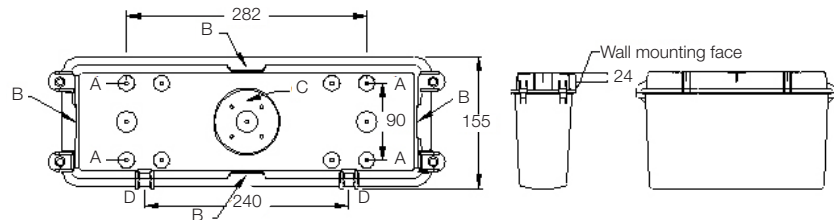

Figure 1: Glass filled nylon base, drill to suit for mounting
3. Take the nylon base and drill holes to suit (refer figure 1). Base mounting screws are not supplied with the unit. Use appropriate screws as required depending on your installation, ie: wall or ceiling. Installer must ensure proper sealing of any penetration to the base to maintain the IP rating of the unit.
- Without using any wall mount bracket; drill holes in the base to suit (refer figure 1, hole position “D”) for wall mount installation without using any bracket. Use appropriate screws as required. Installer must ensure proper sealing of any penetration to the base to maintain the IP rating of the unit.